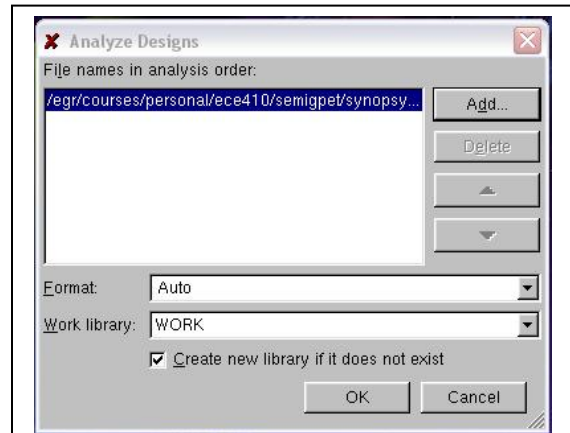

Figure 3: Analyze Designs window.
11. In the window that opens (Fig. 3), click **Add**. Specify the *muxcase.vhd* file from your *muxcase/source* directory.